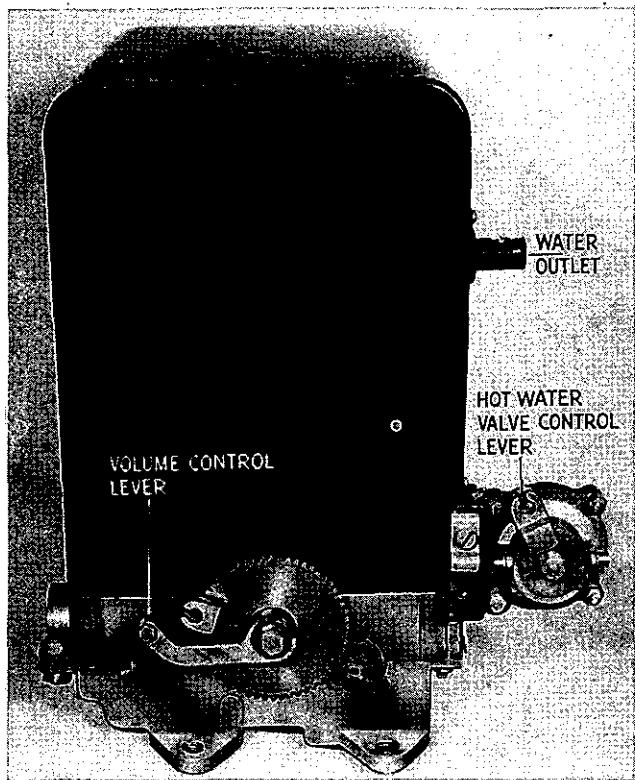

**Fig. 3. Heater details.**
1. Check equipment supplied against details shown in Fig. 3.
### NOTATION FOR FIG. 3